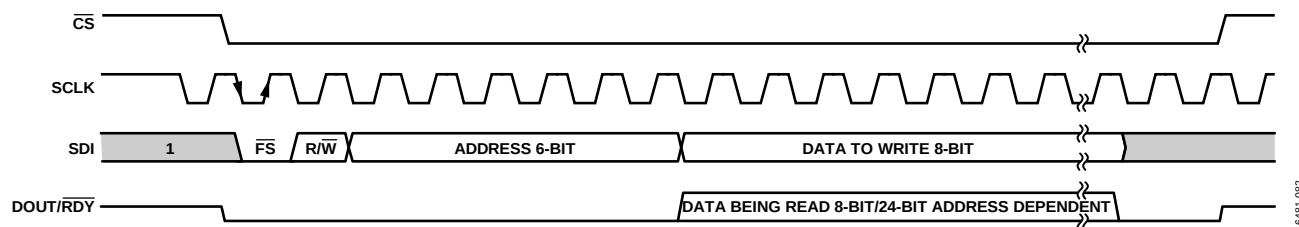

Figure 98. SPI Basic Read/Write Frame
The format of the SPI read or write is shown in Figure 98. The MSB is the first bit in both read and write operations. An active low frame start signal ($\overline{\text{FS}}$) begins the transaction, followed by the R/W bit that determines if the transaction being carried out is to a read (1) or a write (0). The next six bits are used for the address, and the eight bits of data to be written follow. All registers in the ADAQ7768-1 are 8 bits in width, except for the ADC_DATA register (Register 0x2C), which is 24 bits in width. In the case where $\overline{\text{CS}}$ is tied low, the last SCLK rising edge completes the SPI transaction and resets the interface. When reading back data with $\overline{\text{CS}}$ held low, it is recommended that SDI idle high to prevent an accidental reset of the device where SCLK is free running (see the Reset section).